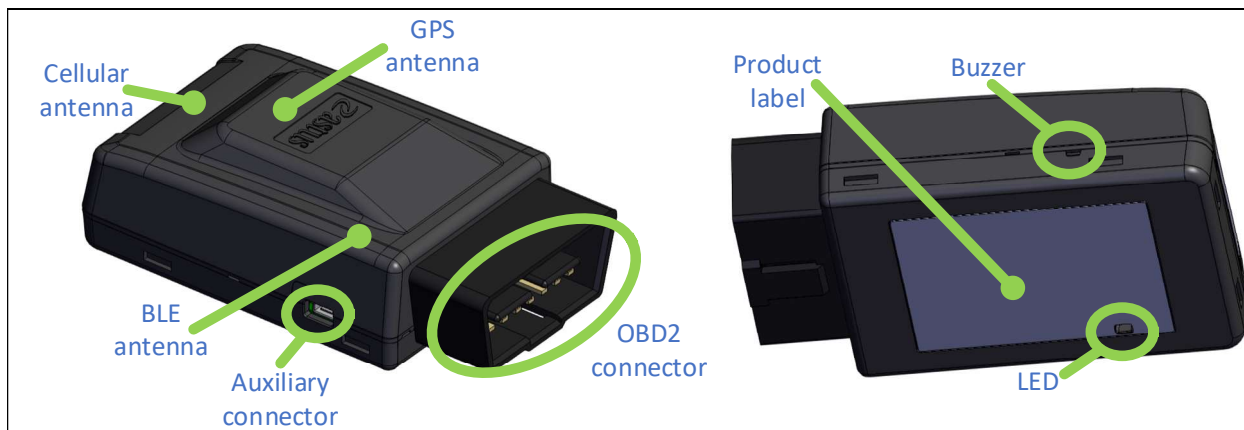

Figure 1 - Main Elements of the QC25
5. For optimal GPS reception, position the QC25 so that its GPS antenna (Figure 1) faces the sky. Avoid metal surfaces above the antenna.